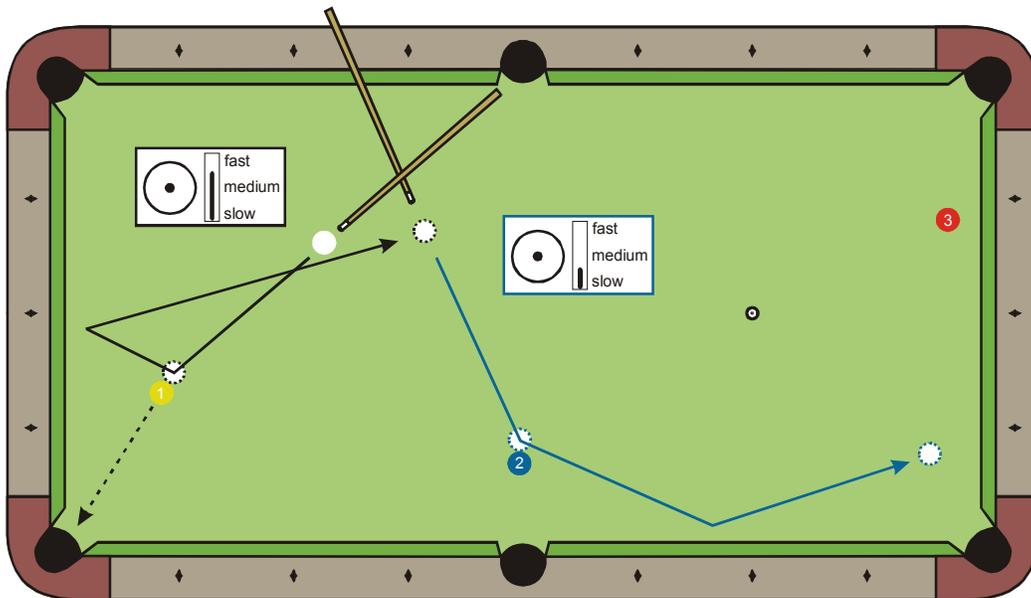

Figure 5.4 Another speed and angle control example
- Figure 5.3 and Figure 5.4 provide good examples of this principle.
Figure 5.4 and NV 5.2 show another sequence where speed control and leaving angles can be used to result in three relatively easy shots. The 1-ball shot requires medium-fast speed because the cut angle is small and the cue ball leaves along the tangent line much slower than it approaches the object ball. For the 2-ball shot, because the shot speed is relatively slow, the cue ball will be rolling naturally by the time it arrives at the 2-ball. Therefore, a center ball hit is appropriate. The cue ball roll (top spin) results in the deflected path into the rail, providing an easy shot on the 3-ball.